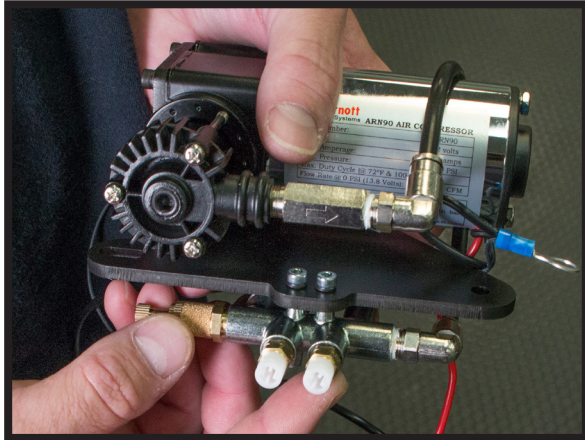

FIGURE 3
2. CUT THE 4MM AIR HOSE IN HALF TO MAKE TWO EQUAL LENGTHS. SCREW TWO VOSS FITTINGS INTO THE AIR MANIFOLD. REMOVE THE WHITE PLUG AND INSERT THE 4MM HOSE UNTIL YOU FEEL IT SEAT. UNSCREW THE FITTING FROM THE MANIFOLD AND MAKE SURE THE KEEPER IS ATTACHED TO THE HOSE. REINSERT INTO THE MANIFOLD THEN TIGHTEN WITH A WRENCH. REPEAT ON THE OTHER VOSS FITTING. (FIGURES 3, 4, 5, 6)